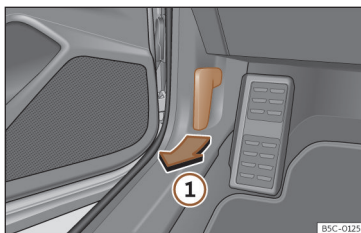

Fig. 215 Release lever in the driver's footwell area.
- Open the door and pull the lever that is underneath the instrument panel >>> **Fig. 215 ①**.